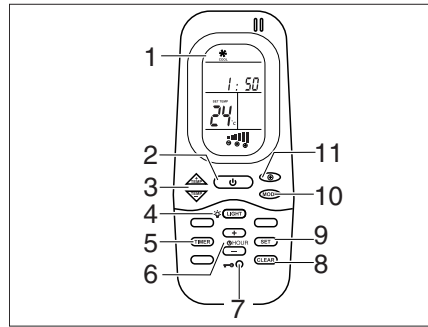
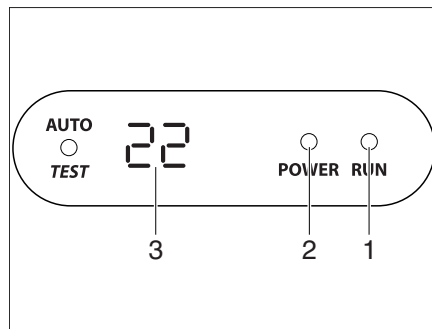

Fig. 122 Remote control
Fig. 123 Display on the diffuser
The air conditioning unit is located on the roof of the vehicle. The remote control (Fig. 122) for the air conditioning unit is located in the kitchen area.
- Connect the vehicle to the 230 V power supply. The air conditioning unit is ready to operate. The LED (Fig. 123,2) on the diffuser's display lights up red.
- To switch on, press the on/off switch (Fig. 122,2) on the remote control. The LED (Fig. 123,1) lights up green when the air conditioning unit is in cooling mode. The LED (Fig. 123,1) lights up red when the air conditioning unit is in heating mode.
- Set the desired operating mode using the MODE button (Fig. 122,10).
- If necessary, set the desired fan level by using the button (Fig. 122,11) and the room temperature by using the buttons (Fig. 122,3).
- To switch off, press the On/Off switch (Fig. 122,2) on the remote control again.
- To carry out programming, switch on the air conditioning unit with the On/off switch (Fig. 122,2) on the remote control.
- Press the TIMER button (Fig. 122,5). The ON indicator for the Start time is activated.
- Set the time with the TEMP (+/-) buttons (Fig. 122,3).
- Press the TIMER button (Fig. 122,5) again. The OFF indicator for the Start time is activated.
- Press the TIMER button (Fig. 122,5) again.
- Upon completing the setting, press the SET button (Fig. 122,9).
- Press the CLEAR button (Fig. 122,8) to delete the timer programming.